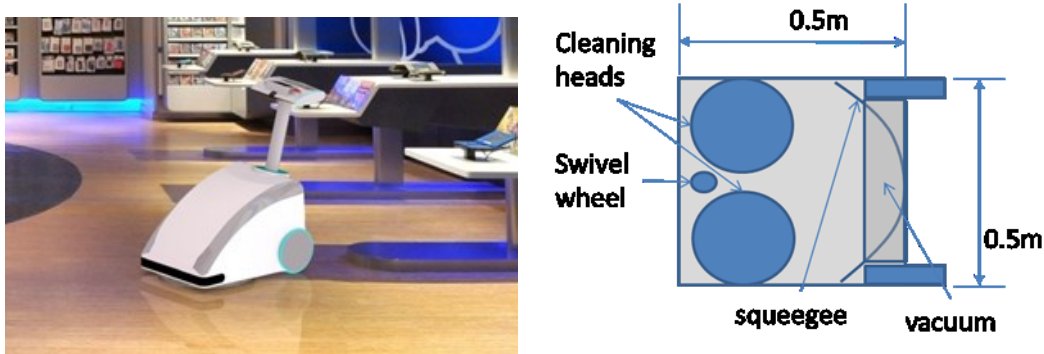

Figure 4: Avidbots Cleaning Robot, preliminary design and top-down schematic.
3. **Motion Planning for Cleaning Robots [35].** Avidbots, a Waterloo area startup in the Velocity Foundry, has requested your help with defining planning algorithms for cleaning commercial spaces with a robotic cleaner. The robot has a straight front with dual brushes and curved tail squeegee, and is 50 cm X 50 cm. It has two drive wheels of radius 12.5 cm on each side of the vehicle at the back, as depicted in Figure 4. The drive wheels can only be driven with rotation rates between  $[0, 8]$  rad/s, meaning the wheels cannot be rotated backward, as this interferes with the squeegee operation.